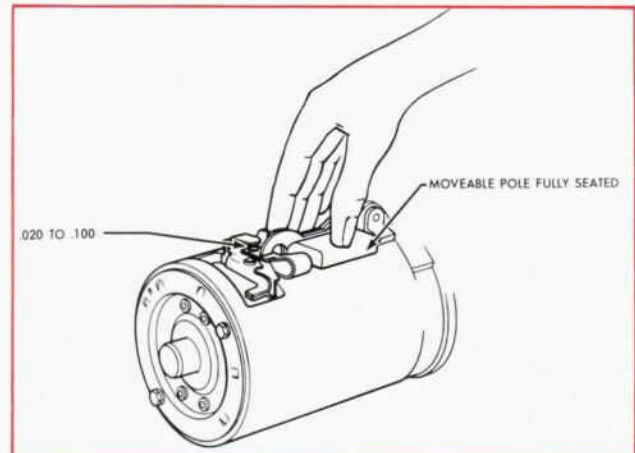

Figure 10—Checking For Switch Contact and Alignment
15. Check for switch contact alignment and clearance. (Fig. 10). Contact air gap with lever fully seated—should be .020 to .100.